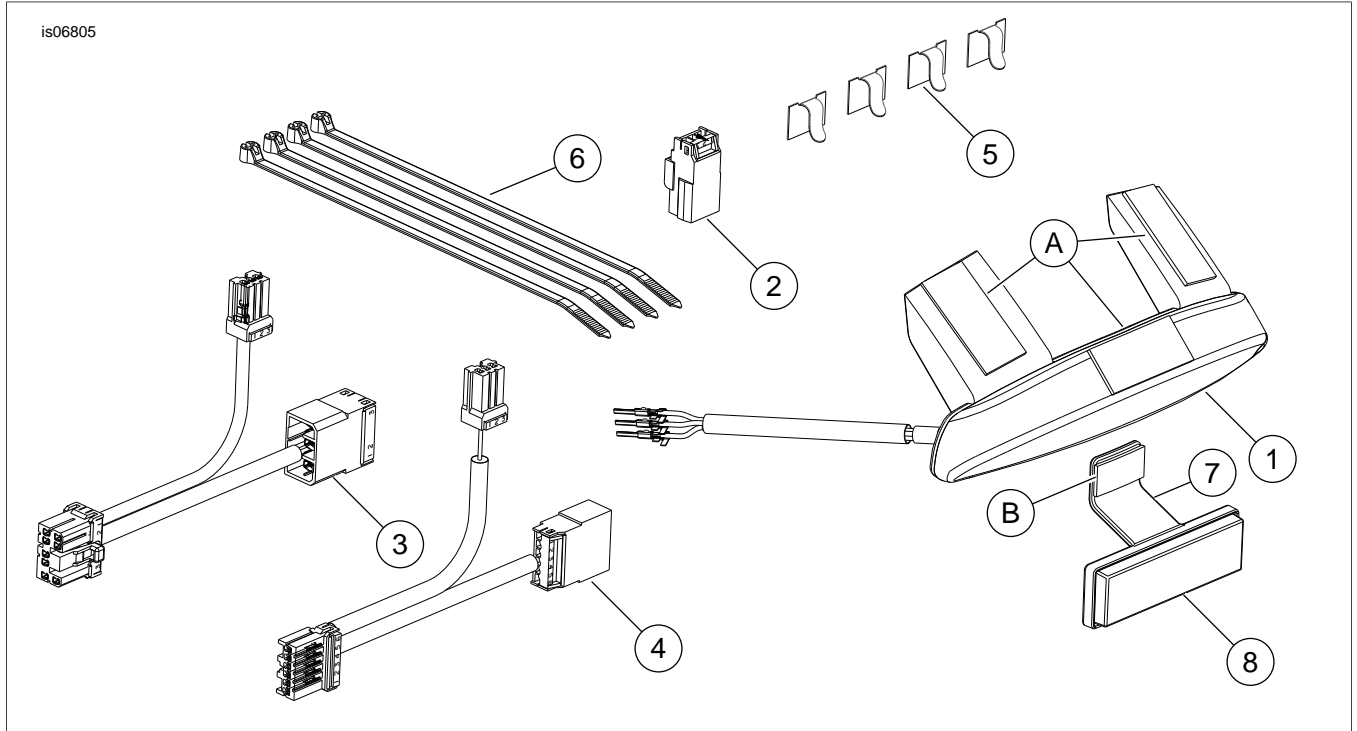

Figure 4. Service Parts: Fender Edge Light Kit
See Figure 4 and Table 1.
5. See Figure 4. Remove the protective tape (A) from the three adhesive pads on the fender edge light (1).
2. **For Dyna models:** See Figure 4. Connect interconnect harness (3) to rear lighting harness connector [7B] and main wiring harness [7A].
**For Sportster models:** See Figure 4. Connect interconnect harness (4) to rear lighting harness connector [7B] and main wiring harness [7A].
4. See Figure 4. Insert the wires and terminals from the light assembly harness into the pin housing (2) from the kit:
6. Secure the interconnect harness in the seat pan area as necessary with cable straps (6).